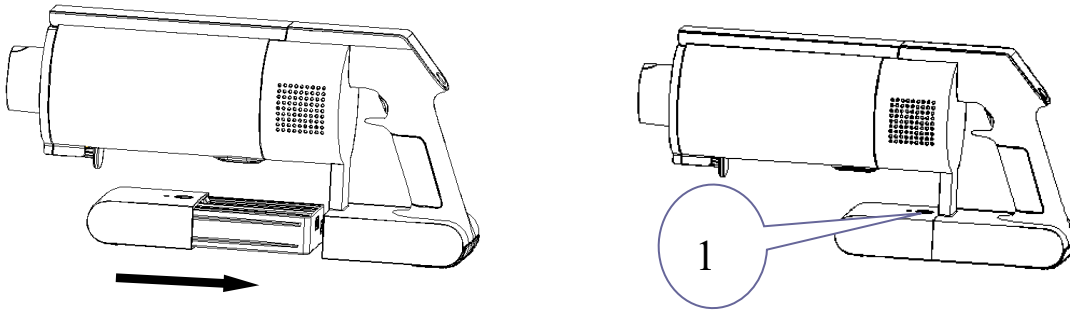

Figure 7-1
7.1 Error code 13; as shown in Figure 7-1, the battery pack is not installed correctly, so it needs to be re-installed. The release button (NO.1) needs to be installed in place. If the battery pack is installed in place and the OLED still displays an error, it needs to be maintained by professionals.